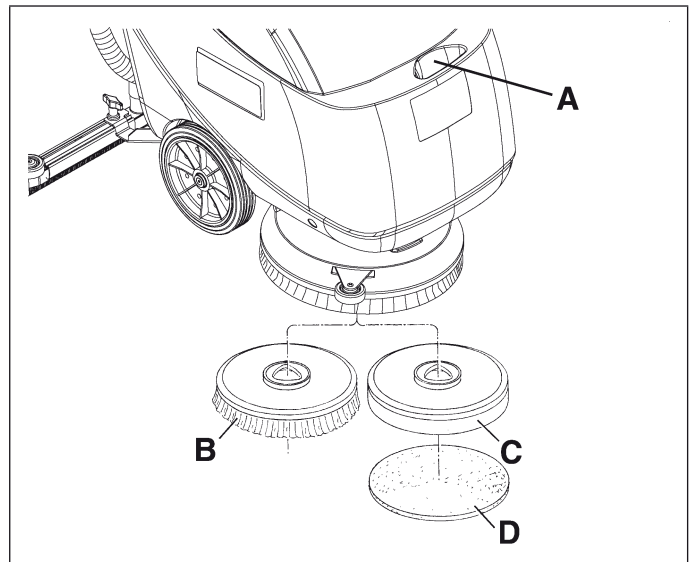

Figure 6
2. Fill the solution tank (A, Fig. 6) with a solution suitable for the work to be carried out.
According to the kind of cleaning to be carried out, the machine can be equipped both with the brush (B, Fig. 6) and the pad-holder (C) with pad (D).
5. Place the brush (B, Fig. 6) or the pad-holder (C) with pad (D) under the cover.